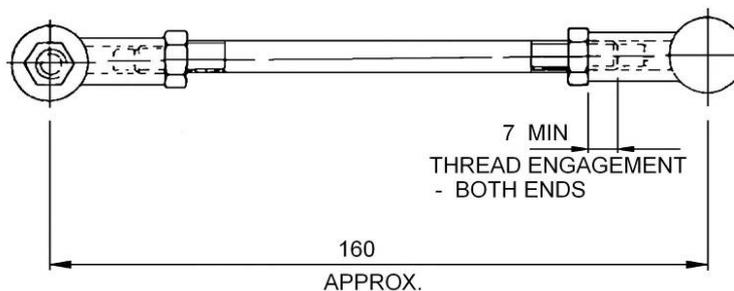

Figure 61 Rod Adjustment
- f. Lift, but do not fully remove the transmission tunnel cover, and remove the adjustable selector rod from the shaft assembly. Adjust the rod to approx. 160 mm (Figure 61).